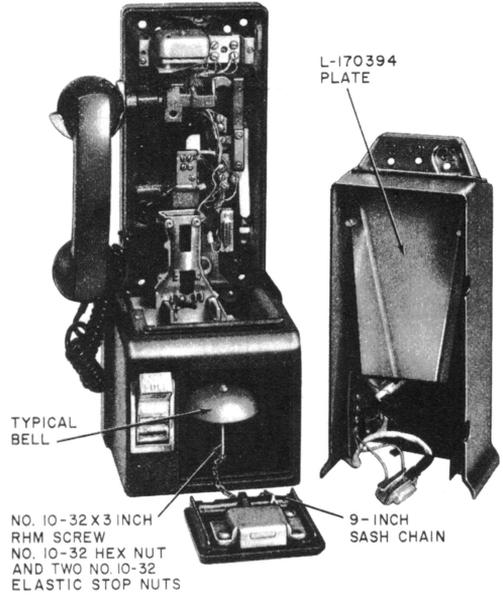

Fig. 4—Decorater Set Showing D-180573 Kit of Parts Installed
**2.06** A D-180573 Kit of Parts completes the redesign of the set (Fig. 4) as follows: